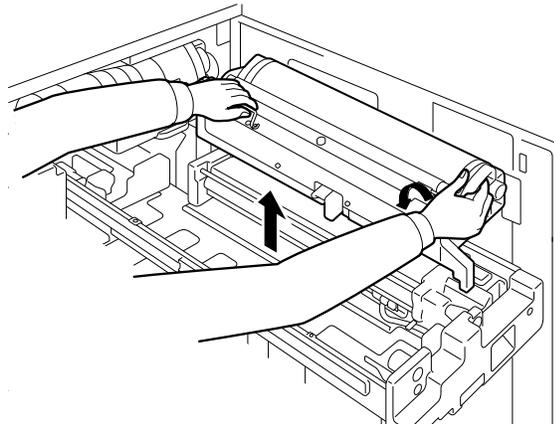

Figure 5-6
4. Remove the OPC Cartridge from the EP Drawer as shown in Figure 5-6